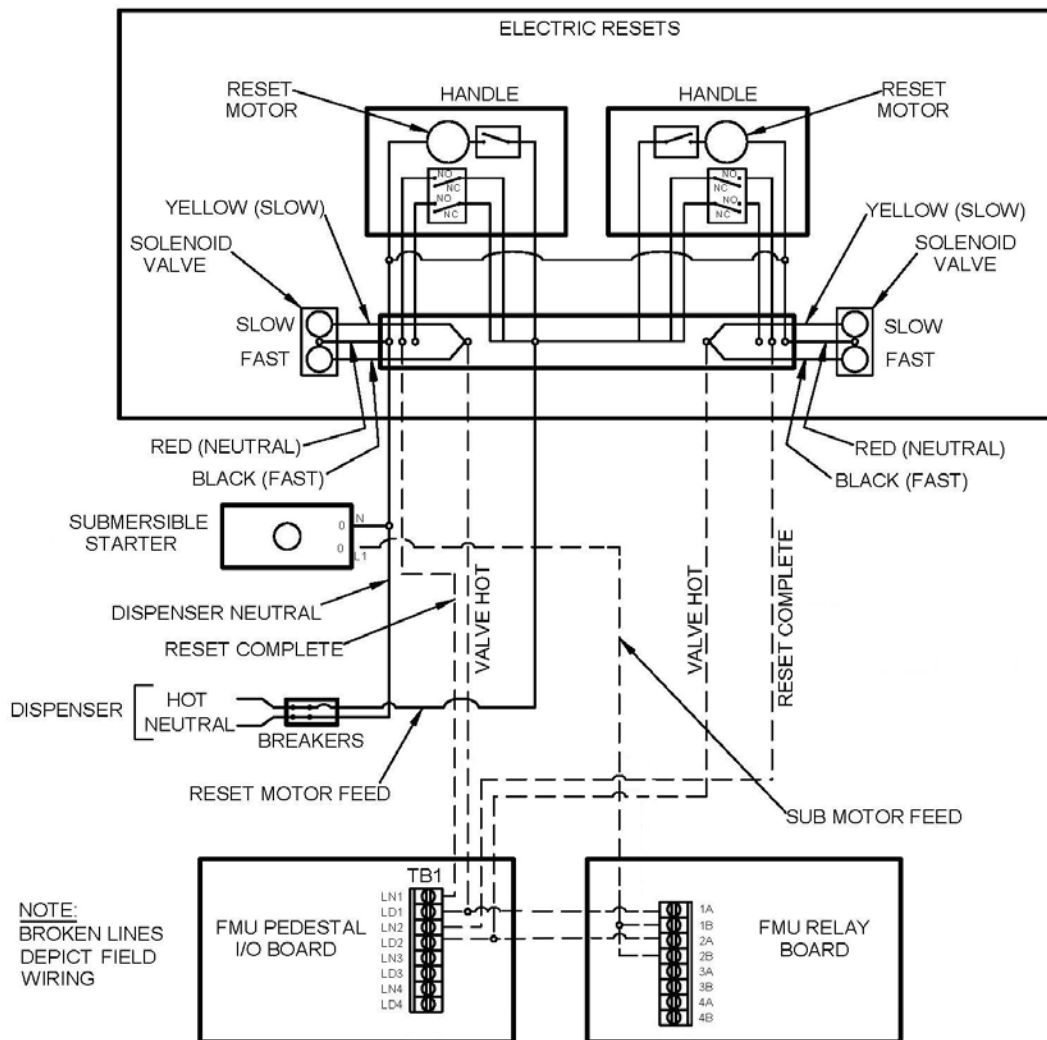

Figure 4-11. Wiring Diagram - Using Dual Control Relay Assembly (DCRA) to Control Two Devices
- f. **Using Dual Control Relay Assembly (DCRA) to Control Two Devices.** See Figure 4-11. Classic and DoD FMUs do not provide for control of dispenser reset while also providing pump handle detection. If it is desired to use a classic or DoD FMU to control solenoid valves and pump motors, and still have pump handle detection, it may be accomplished using a DCRA. The DCRA provides an additional set of relays to control two devices with each hose selection. This control method interrupts power from the dispenser reset mechanism to both solenoid valves and pump motors, and allows dispenser reset without authorization, but prevents pump motor activation until authorized. Pump handle detection is possible from all variations of FMUs.
Figure 4-11 illustrates control of a dual hose, single product dispenser having two solenoid
This application may also be used to control a dual hose dispenser with two suction pump motors (no internal solenoid valves) and a solenoid controlled anti-siphon valve which must be activated when either motor is turned on. In Figure 4-11, this would be illustrated by substituting suction pump motors where the solenoid valves are, and a solenoid controlled anti-siphon valve where the SUBMERSIBLE STARTER is shown.
- 10) Repeat steps 1 through 9, as required, for all additional hoses. For the wiring diagram shown in Figure 4-11, with one starter, run a jumper wire from 1B to 2B. This will provide for an output to the starter when an input is received on 2A.
The Smart Relay Assembly (see Figure 4-11) is an option purchased for the purpose of using an FMU to control carwashes, gate openers, and other similar devices which do not generate pulses. The Smart Relay Assembly may be added as a first or second relay assembly in an FMU. A Smart Relay Assembly may control a maximum of three devices. Where it has four relays, three relays are used for control and the fourth relay is used to generate pulses. Each relay activation generates 10 pulses, which is translated to one transaction.